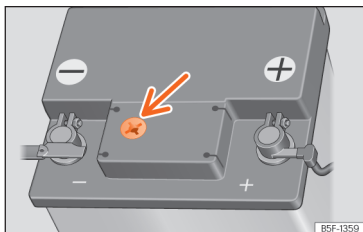

Fig. 210 Sight glass on the top of the 12 volt battery (schematic representation).
- Check the colour display in the sight glass on the top of the battery >>> Fig. 210.